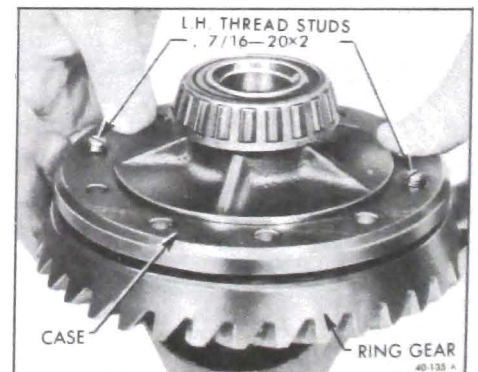

Figure 40-111 - Installing Ring Gear On Differential Case
5. After making certain that mating surfaces of case and ring gear are clean and free of burrs, thread two 7/16x20x2 (LH) studs into opposite sides of ring gear, then install ring gear on case. See Figure 40-111. Install ring gear attaching bolts just snug. Torque bolts alternately in progressive stages to 85 lb. ft.